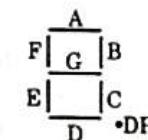

Fig. 1.26.1. Seven-segment LED : LED segments
2. The physical arrangement of these LEDs is shown in Fig. 1.26.1.